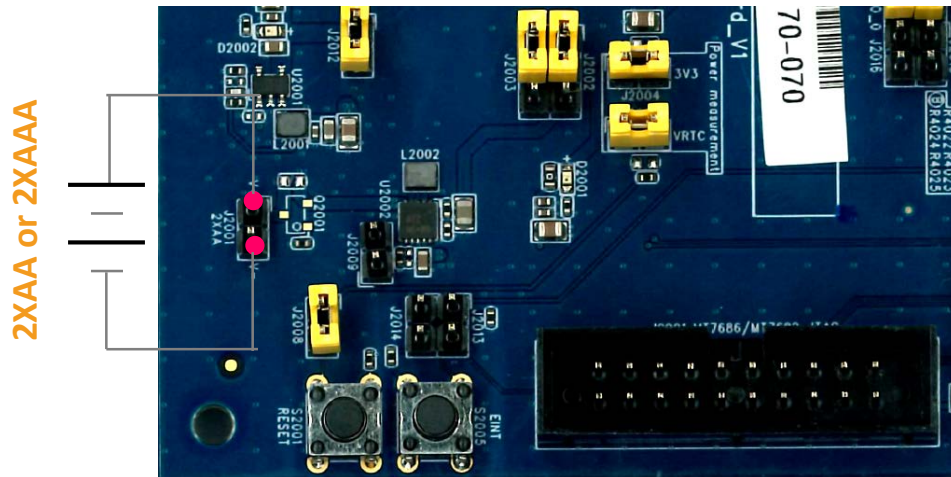

Figure 5. Power up the HDK using an AA or AAA Battery (J2001)
- Connect an external AA battery to battery pin header (**J2001**) to supply power to the system, as shown in Figure 5. When using an AA battery, plug the USB to micro-USB connector **CON5** (Figure 2). Note, that the jumpers **J2003**, **J2004**, and **J2007** are required to be set on. More details on the jumpers can be found in Table 2.